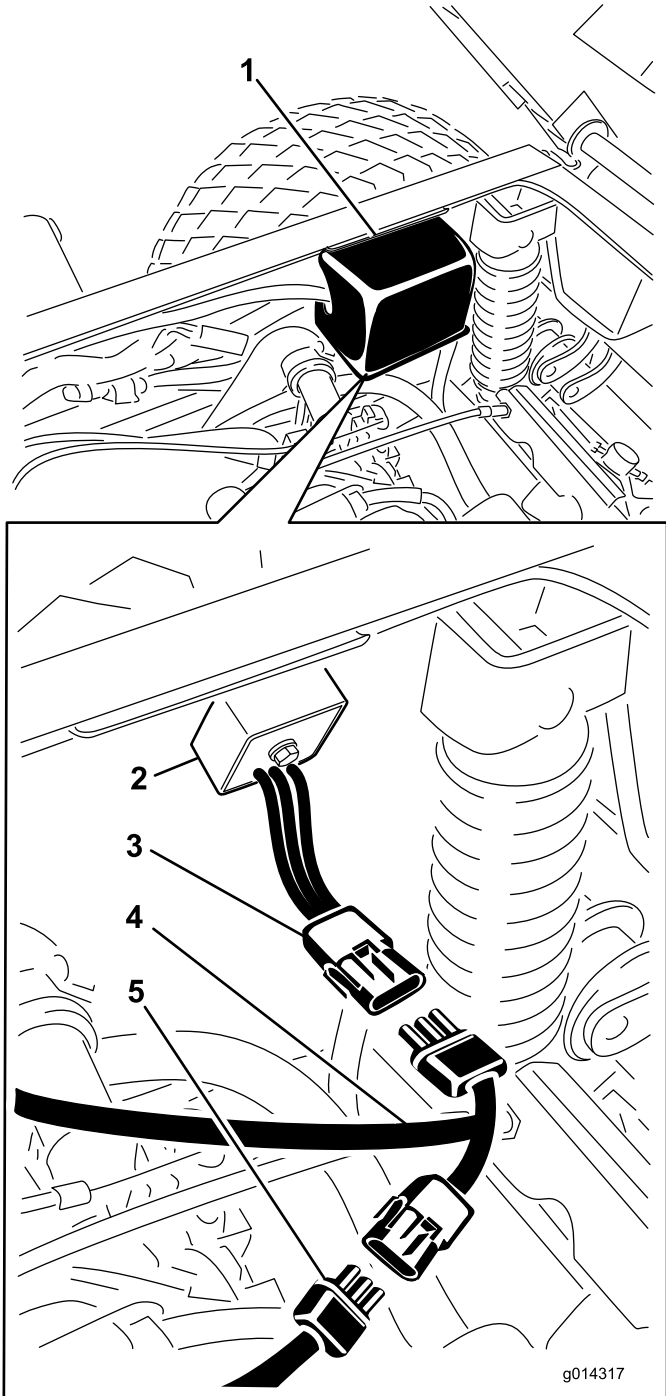

Figure 4
2. Remove the electrical cover located along the right side of the frame to gain access to the regulator and the wiring (Figure 4).
3. Disconnect the regulator from the vehicle harness and connect it to the rear, key-start harness (Figure 4).
4. Connect the rear, key-start harness to the vehicle harness (Figure 4).